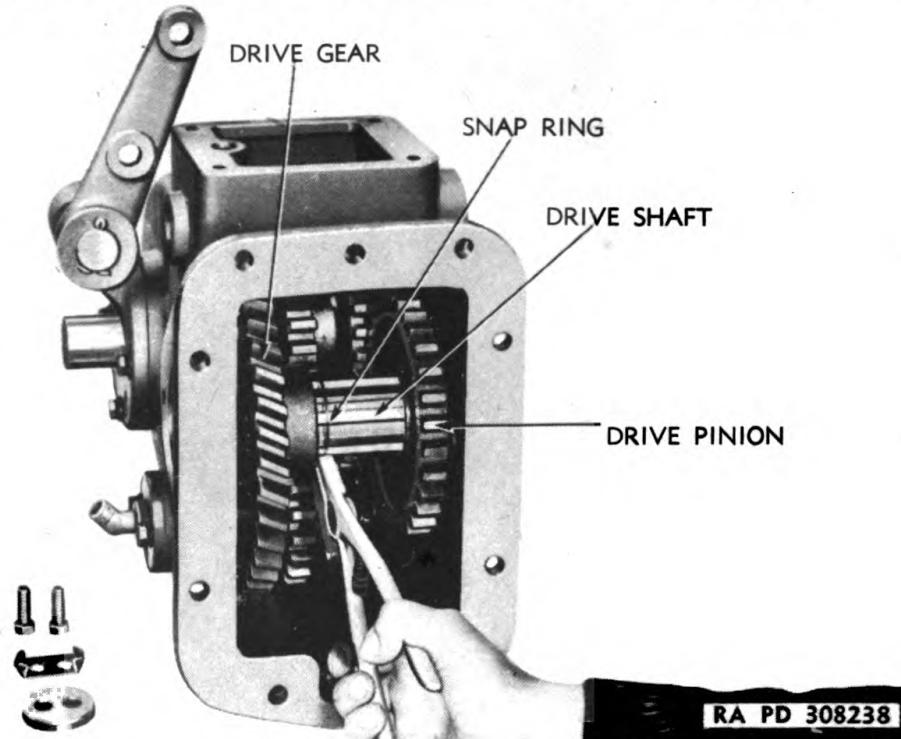

Figure 136 – Snap Ring Removed From Groove in Shaft
b. Remove Drive Shaft and Gears. Remove bearing cover from front side of case (fig. 134) by removing four cap screws from cover. Bend bolt lock away from cap screw heads (fig. 135) and remove cap screws and end washer from end of shaft. Using brass drift, drive shaft toward front of case far enough to uncover snap ring (fig. 136). Expand snap ring out of groove and move it toward front of case. Then drive shaft out of rear of case, removing drive pinion, snap